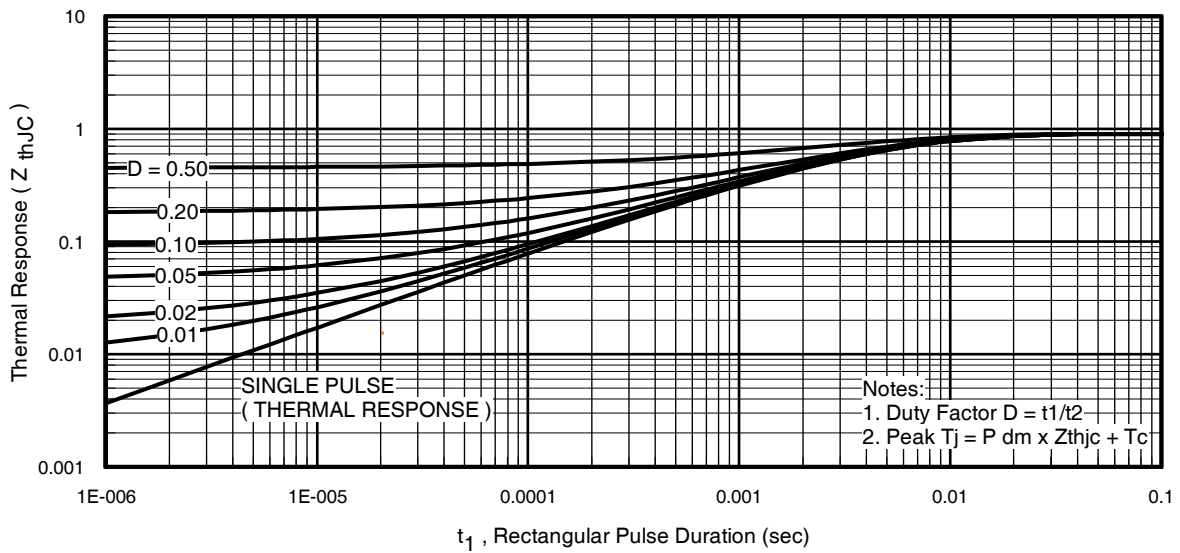

Fig 11. Maximum Effective Transient Thermal Impedance, Junction-to-Case
- ① Repetitive rating; pulse width limited by max. junction temperature. (See fig. 11).
- ② Limited by T_{Jmax}, starting T_J = 25°C, L = 0.12mH, R_G = 25Ω, I_{AS} = 53A, V_{GS} = 10V. Part not recommended for use above this value.
- ③ I_{SD} ≤ 53A, di/dt ≤ 420A/μs, V_{DD} ≤ V_{(BR)DSS}, T_J ≤ 175°C.
- ④ Pulse width ≤ 1.0ms; duty cycle ≤ 2%.
- ⑤ C_{oss eff.} is a fixed capacitance that gives the same charging time as C_{oss} while V_{DS} is rising from 0 to 80% V_{DSS}.
$Z_{thJC}(D, t_{av})$ = Transient thermal resistance, see figure 11)